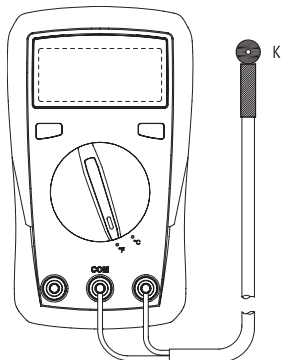

Figure 5
8. Temperature measurement (only for 72-13435, see Figure 5)